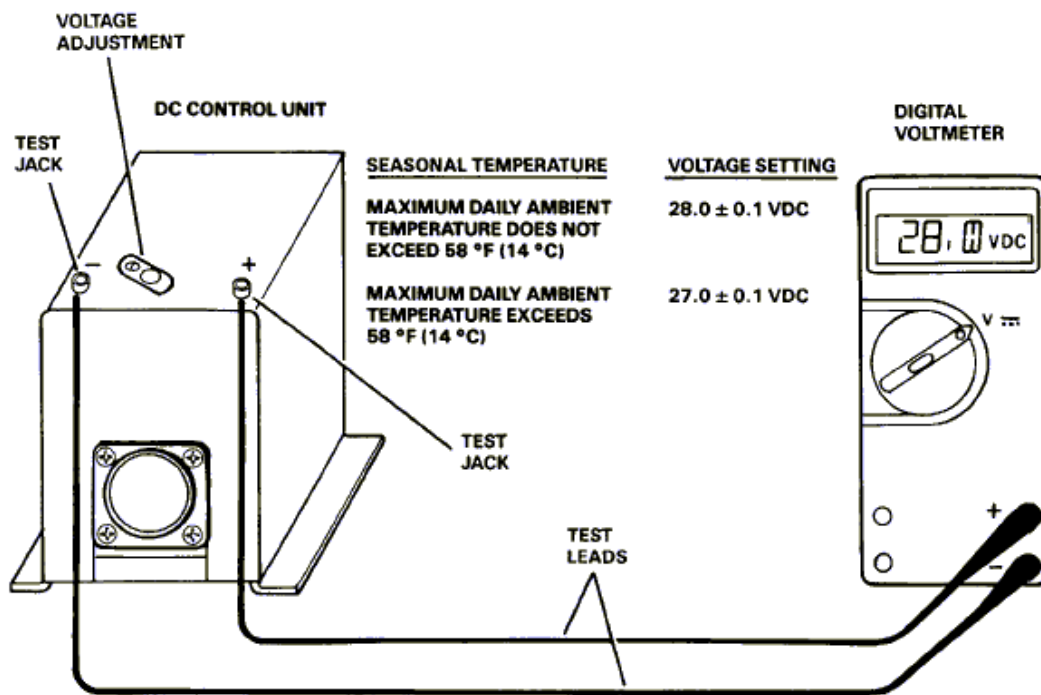

Figure 96-3. Voltage Control Adjustment
96.3.17.1.2 Set GEN switch to RESET and then to OFF. Measure voltage at DC control unit test jacks (Figure 96-3). If necessary, adjust control unit for required voltage as follows: